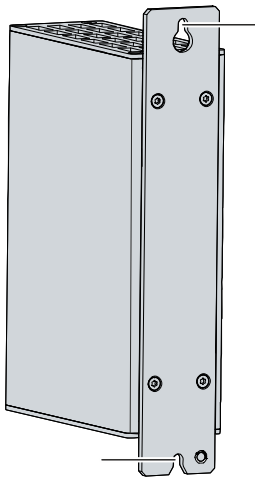

Fig. 11: C6905\_Control cabinet installation
2. Hang the PC on the screws at the marked places on the mounting plate (see fig. 11).